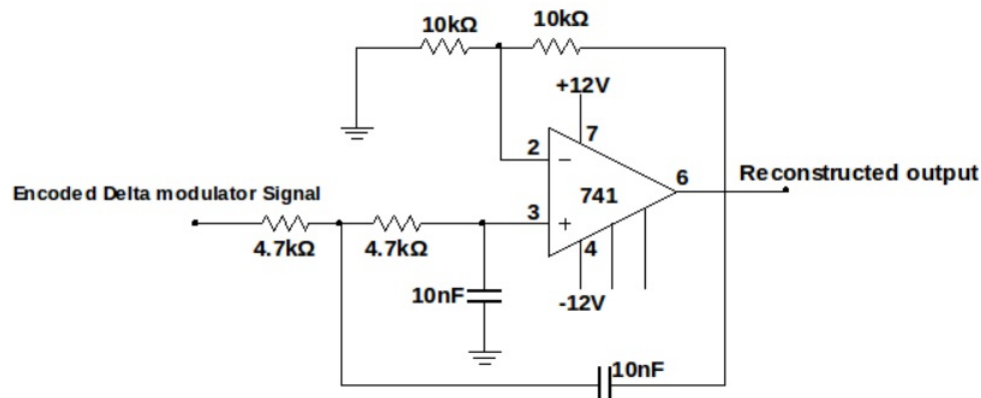

Figure 2: Delta Demodulation
7. The estimated message signal from unipolar to bipolar output is passed through a low pass filter as shown in Figure 2. Low pass filter will recover the message signal.